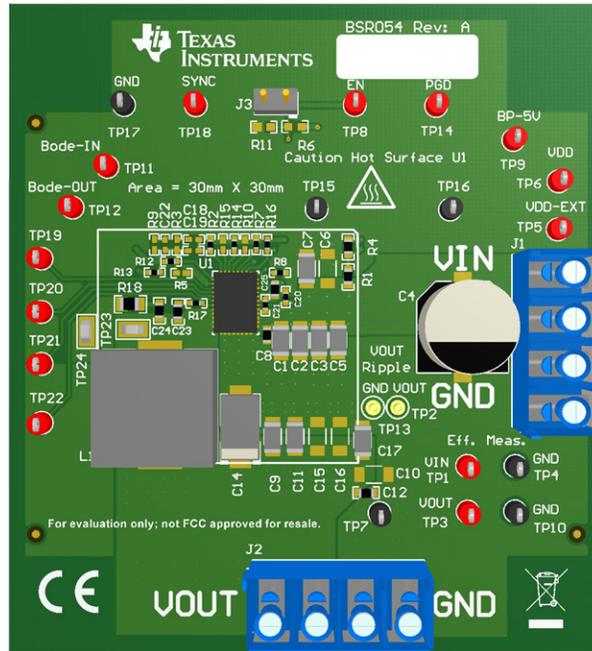

Figure 2. BSR054EVM Overview
Multimeters: It is recommended to use two separate multimeters Figure 2. One meter is used to measure V_{IN} and one to measure V_{OUT} .
Output Load: A variable electronic load is recommended for testing Figure 2. It must be capable of 25 A at voltages as low as 0.6 V.
1. Connect VOUT to J2 and VOUT_GND to J2 Figure 2.
4. Connect VIN to J1 and VIN_GND to J1 Figure 2.